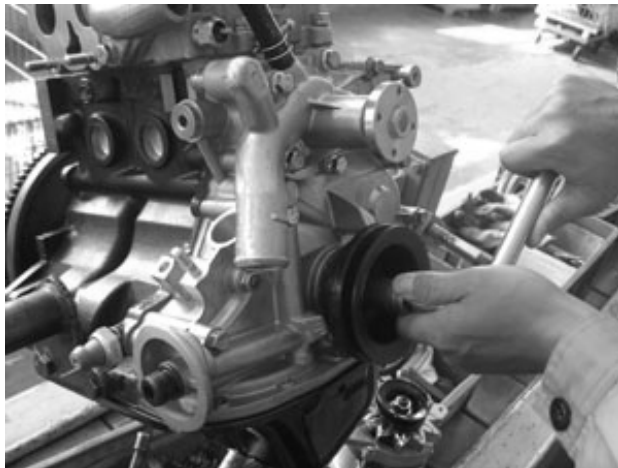

Figure 58
- 1) Turn around the crank shaft, align the line on the pulley of crankshaft straight to the 0 degree line on the cover of engine (See Figure 57, Figure 58, Figure 59)